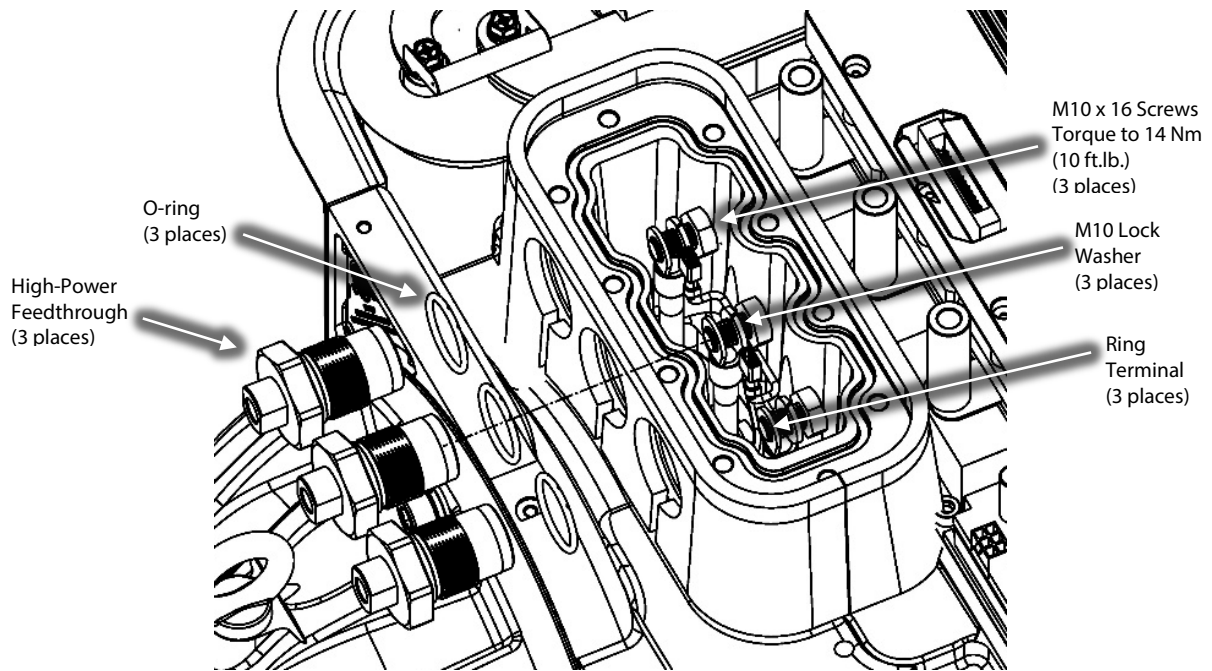

Figure 8 – High-Power Feedthrough Removal
19. Remove the three (3) M10x16 screws and ring terminal connections from the feedthrough in order to be able to release feedthrough assembly. Refer to Figure 8 (High-Power Feedthrough Removal).
20. Remove the three (3) high-power feedthroughs using a 36mm wrench. Refer to Figure 8 (High-Power Feedthrough Removal).
21. Remove the three (3) high-power feedthrough O-rings from the Main housing if they did not come out with the old feedthroughs. Refer to Figure 8 (High-Power Feedthrough Removal).